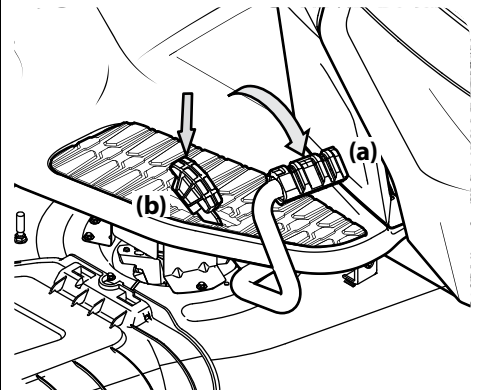

Figure 3-3
2. To travel FORWARD, slowly press the forward drive pedal (a) forward until the desired speed is achieved. See Figure 3-3.
3. To travel in REVERSE, check that the area behind is clear then slowly depress the reverse drive pedal (b) until the desired speed is achieved. See Figure 3-3.